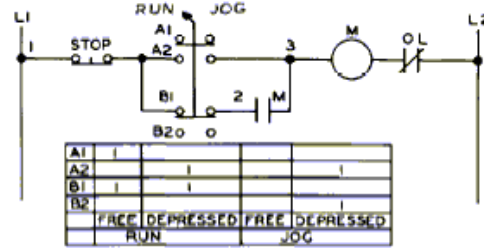

Fig. 24 Jogging with Selector Push Button
12. Jogging: Selector Push Button (Fig.24)